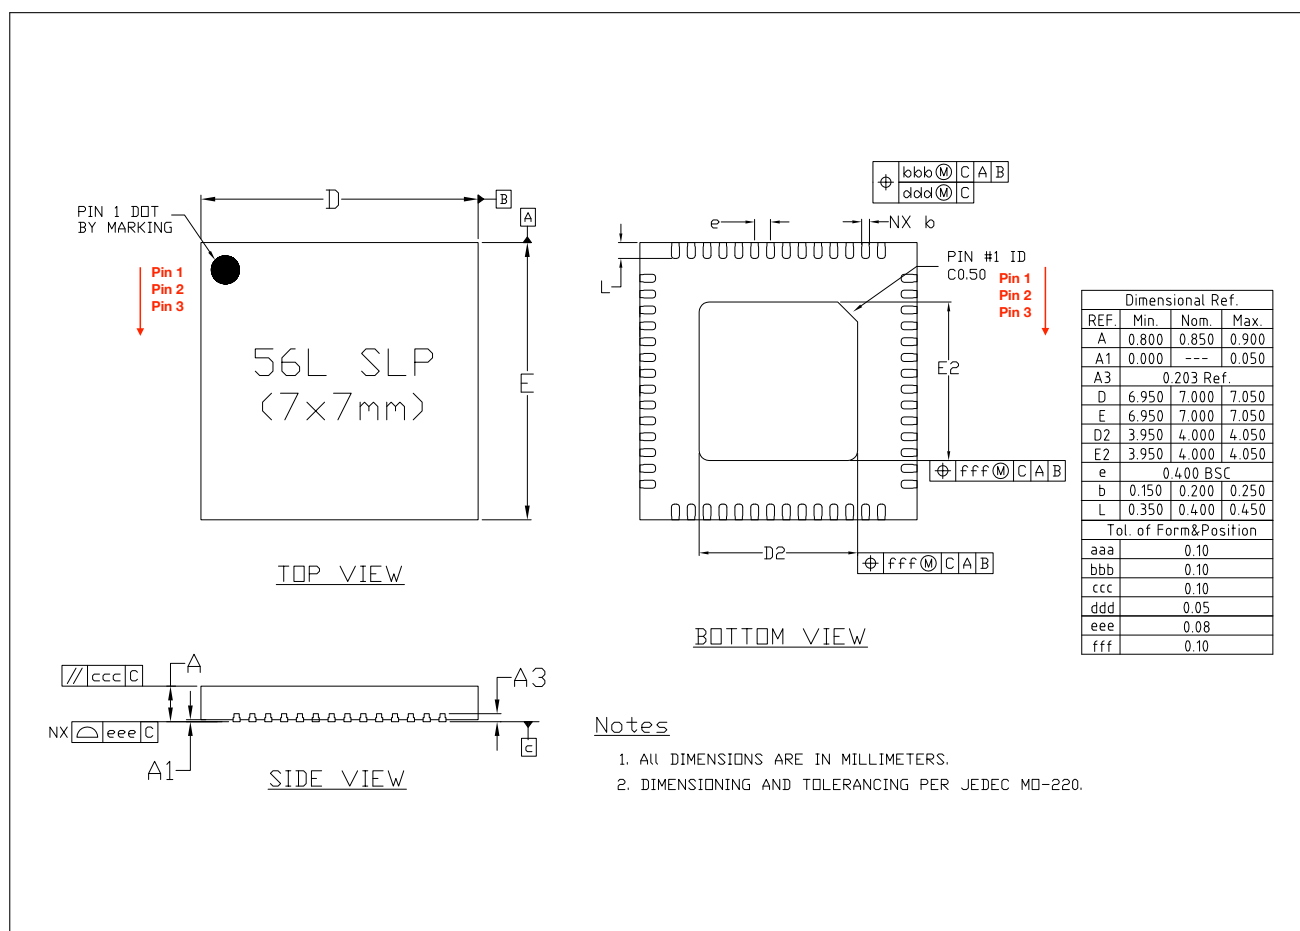
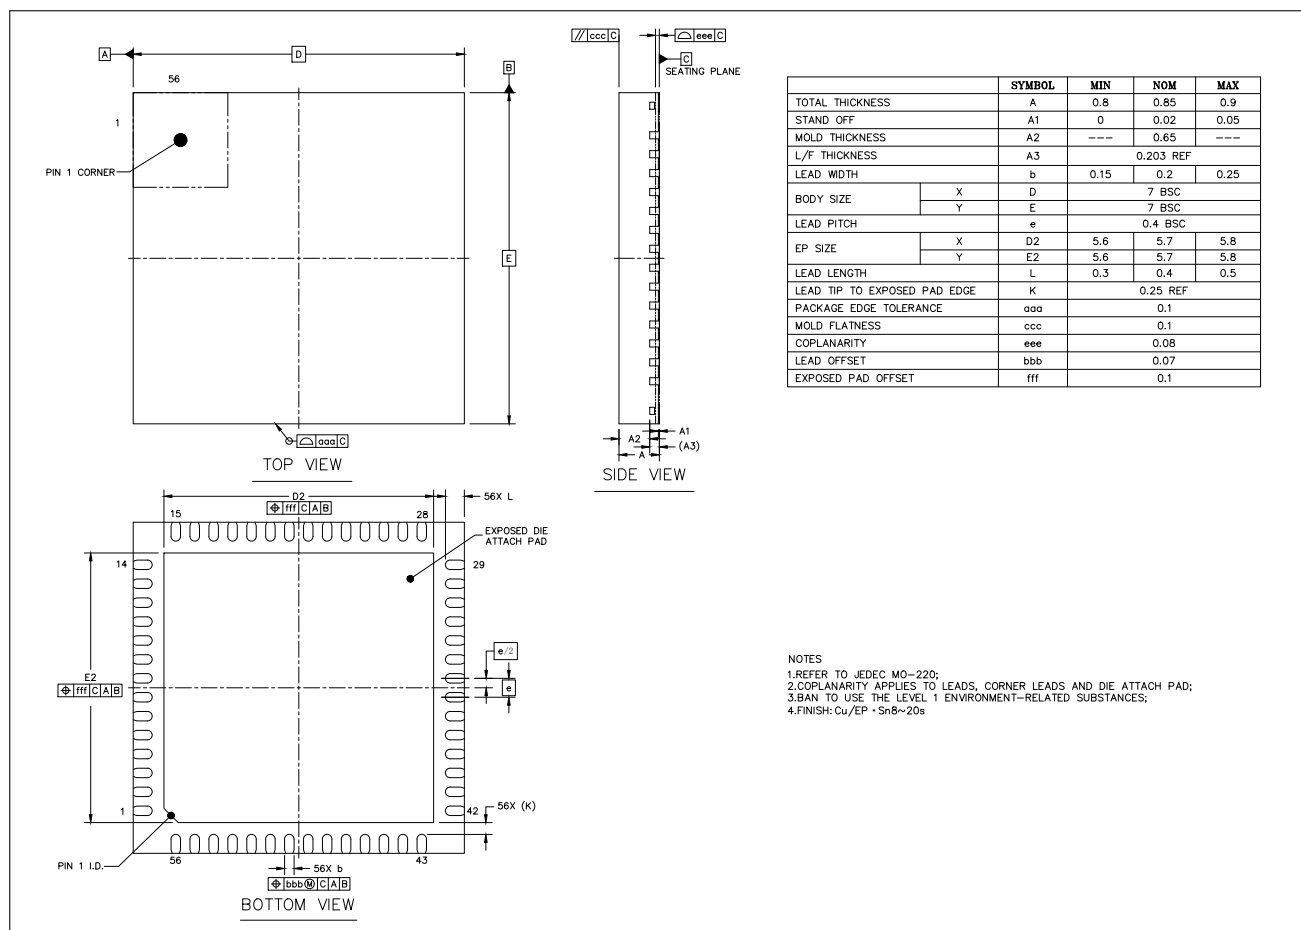

Figure 7-1. QFN56 (7x7 mm) Package
Figure 7-2. QFN56 (7×7 mm) Package (Only for ESP32-S3FH4R2)
- All ESP32-S3 chip variants have identical land pattern (see Figure 7-1) except ESP32-S3FH4R2 has a bigger EPAD (see Figure 7-2). The source file \(asc\) may be adopted for ESP32-S3FH4R2 by altering the size of the EPAD (see dimensions D2 and E2 in Figure 7-2).